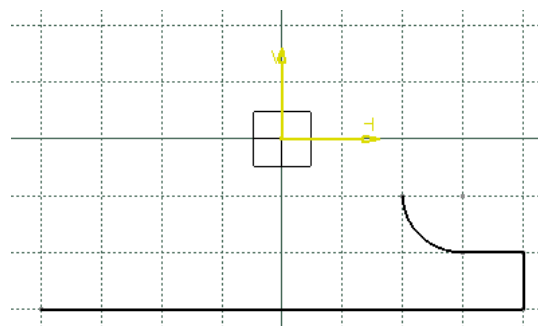

Figure 1-39 Sketch after drawing three lines and a tangent arc
- Draw the sketch of the model using the **Profile** and **Rectangle** tool, refer to Figures 1-39 through 1-41.
9. Move the cursor to a location whose coordinates are 20, -10 and specify the endpoint of the tangent arc. Figure 1-39 shows the sketch, after drawing three lines and the tangent arc. The system switches back to the **Line** mode.